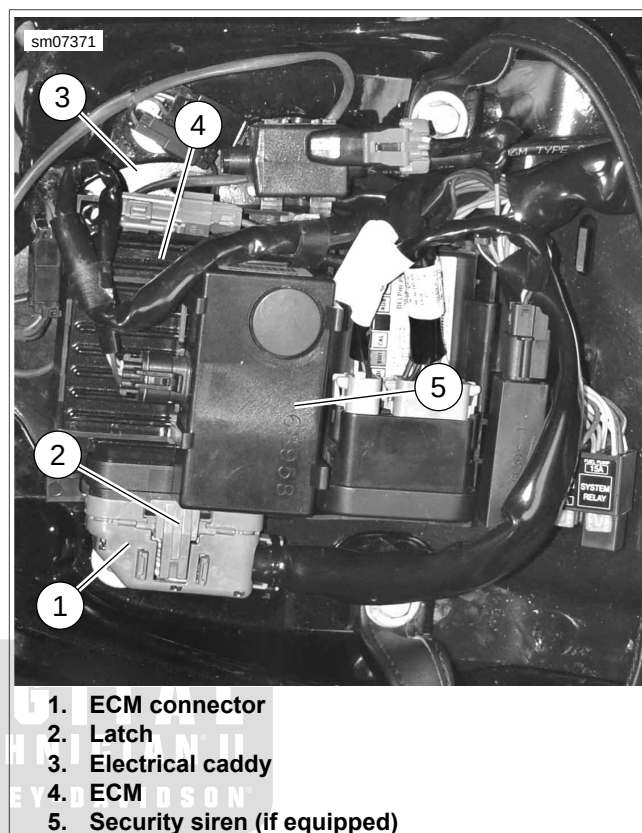
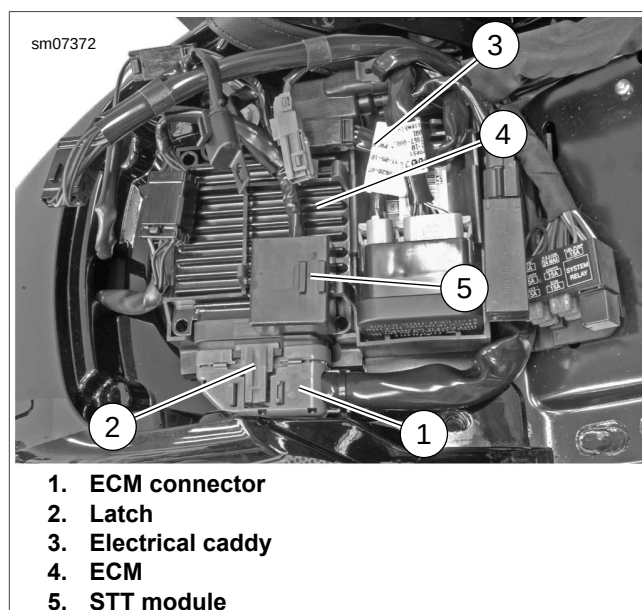

Figure 7-1. ECM: VRSCF
Figure 7-2. ECM: VRSCDX
4. See Figure 7-1 or Figure 7-2. Lift upward on electrical caddy (2) and press latch (2) on ECM connector (1) [78B] and disconnect from ECM.
5. Push downward on ECM and remove ECM (4) from bottom of electrical caddy.
1. See Figure 7-1 or Figure 7-2. Install ECM (4) into bottom of electrical caddy (3) and press firmly until ECM is fully seated.
3. Insert ECM connector (1) [78B] into ECM latch locks.